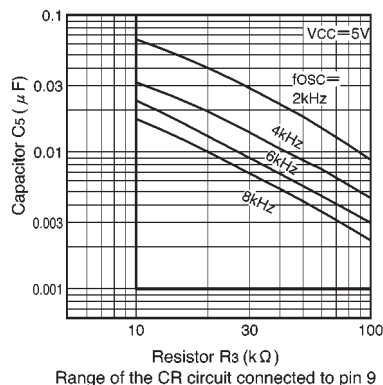

Fig. 9
(1) Use the potentiometers VR1 and VR2 connected to pins 1 and 3 to set the 0dB levels and adjust the channel 1 and channel 2 balance.
(2) The recommended oscillator frequency is 4kHz (pin 9). The external component values for C_5 and R_3 are $0.01\mu\text{F}$ and $41\text{k}\Omega$ (or $39\text{k}\Omega$). If you wish to use other values, they should be in the ranges $0.001\mu\text{F}$ to $0.1\mu\text{F}$ and $10\text{k}\Omega$ to $100\text{k}\Omega$. (see Fig. 9).
(3) The dynamic ranges for the BA6820F and BA6822S/F comparators are large, and the comparators will operate even with low-level signals.